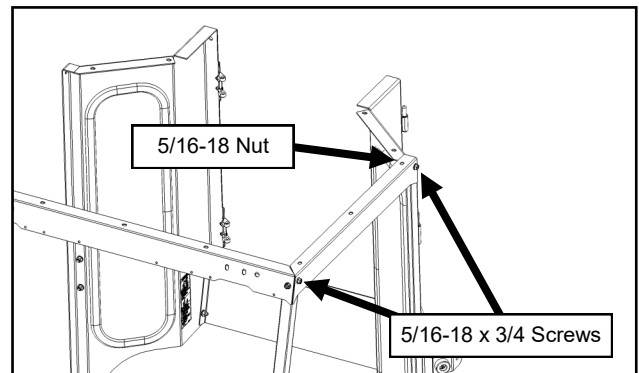

Fig. 10.1 (Install Left Door Header)
- 10.1 Install the left Door Header to the A-pillar and rear leg. See Figure 10.1.